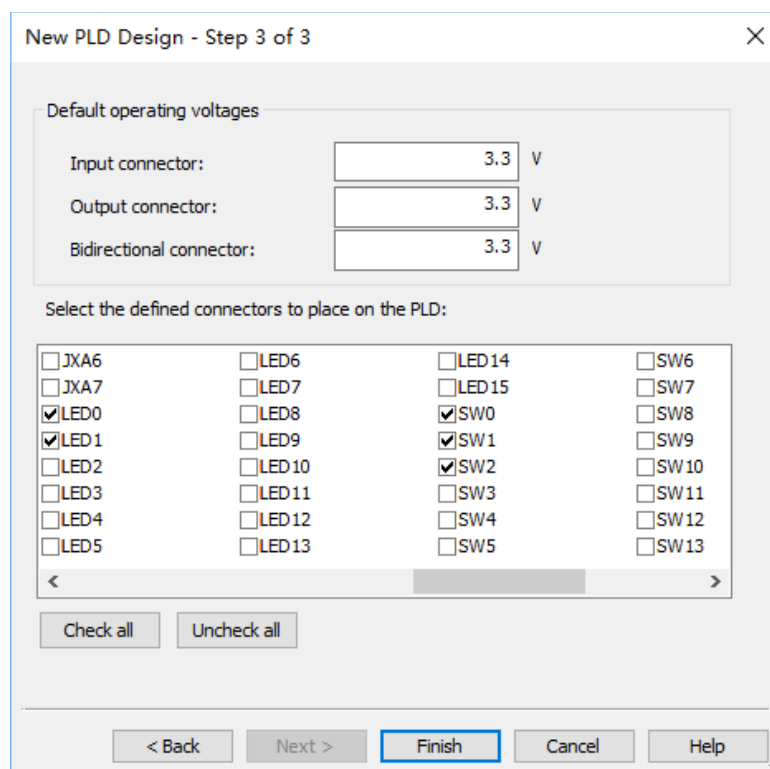

Figure 3. Choosing I/O resources on an FPGA board
- In the “New PLD Design – Step 3 of 3” window, check the I/O resources on the Basys 3 FPGA board that you plan to use for the inputs and outputs of your circuit; in this lab, we will use SW0, SW1, SW2 for the three inputs A, B, C, and LED0 and LED1 for the two outputs Sum and Carry, as shown in Figure 3;